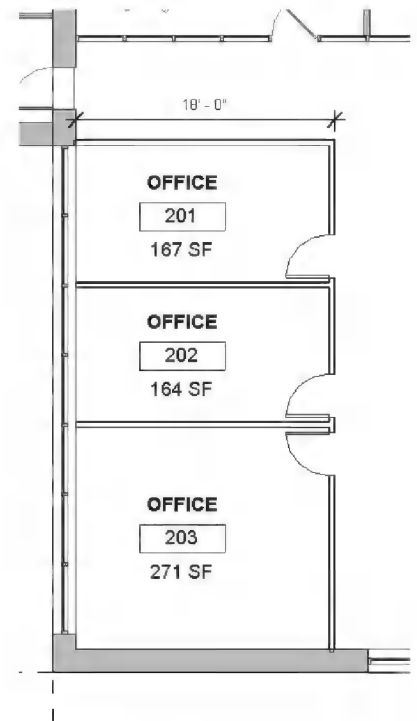

FIGURE 16-3.16 Rooms added, Level 2 – New floor plan view
44. Add three **Rooms** to the **Level 2 – New** floor plan as shown in Figure 16-3.16.